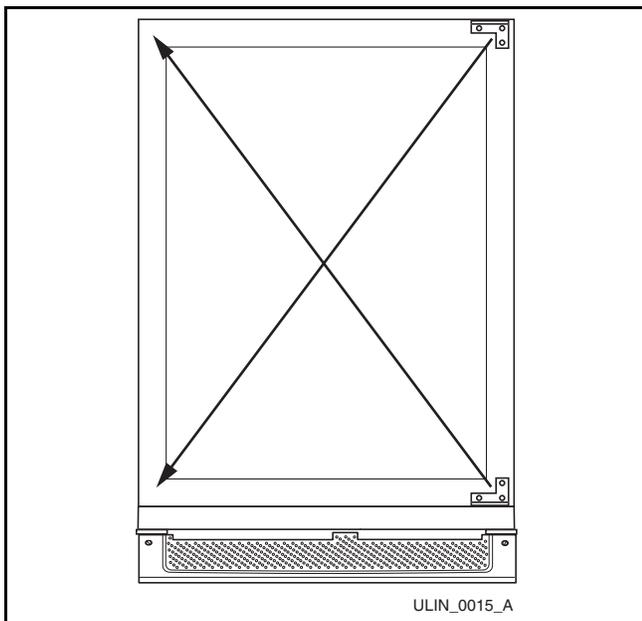

Figure 7
(All U-Line units (except Stainless Steel models) may be left- or right-hand opening. The door opening is easily reversed by moving the hinge hardware to the opposite side. The top hinge hardware will be used on the bottom of the other side and the bottom hinge hardware will be used on the top of the other side (see **Figure 7**).
1. Using a Phillips screwdriver, remove top hinge screw pin from door (**Figure 7**). Remove door by tilting forward and lifting off bottom hinge pin.